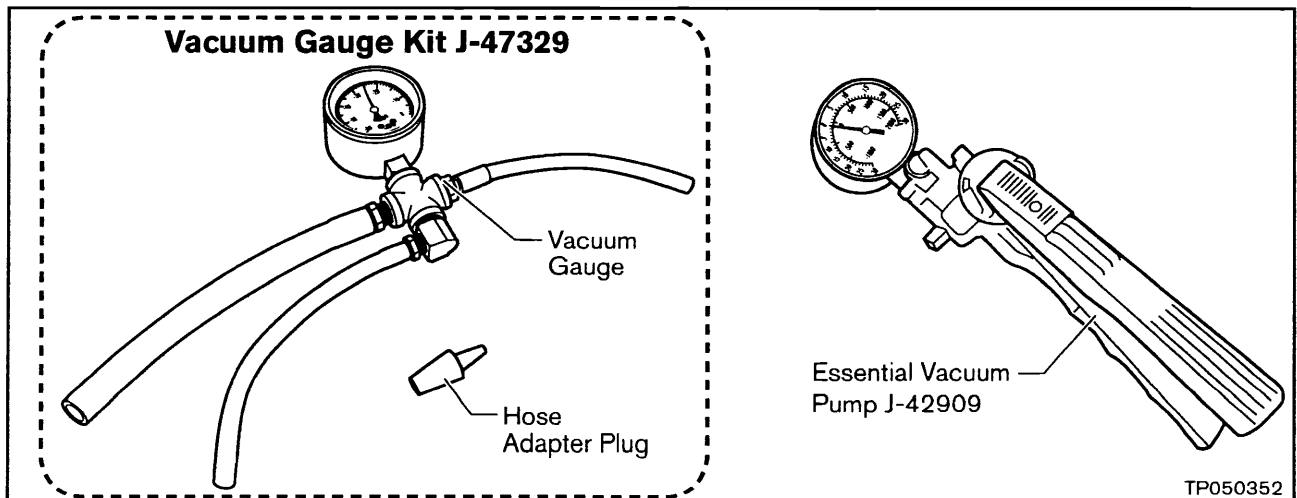

Figure 15
13. Get the Vacuum Gauge and Hose Adapter Plug from the Vacuum Gauge Kit J-47329 (see Figure 15).